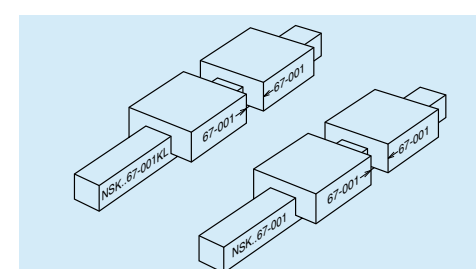

Fig. 10.30 When two rails have different reference number
- When two or more rails of different reference number are used in a single set, the rails and slides have the same serial number. In this case, when slides are removed from the rail, it is unclear which rail each slide was previously installed on. When removing ball slides from the rail for an unavoidable reason (**Fig. 10.30**), sufficient precaution is required.